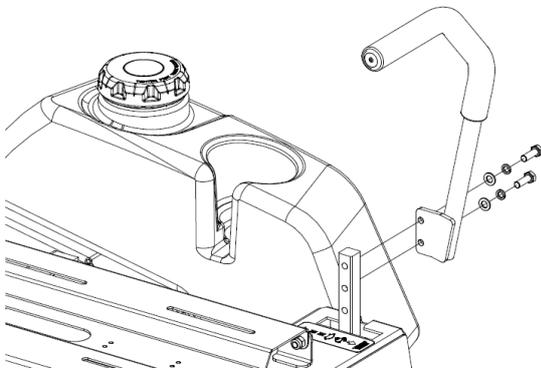

Figure 4
4.3.2 Place the lever on the outside of the control arm shaft and secure with bolts and washers (Refer to Figure 4),tighten until snug. Repeat on opposite side of unit.